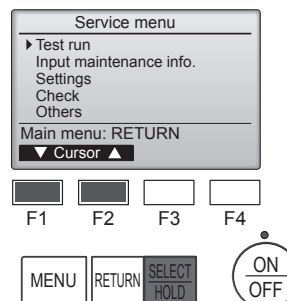

Fig. 7-1
- (1) Select "Test run" from the Service menu, and press the [SELECT/HOLD] button. (Fig. 7-1)